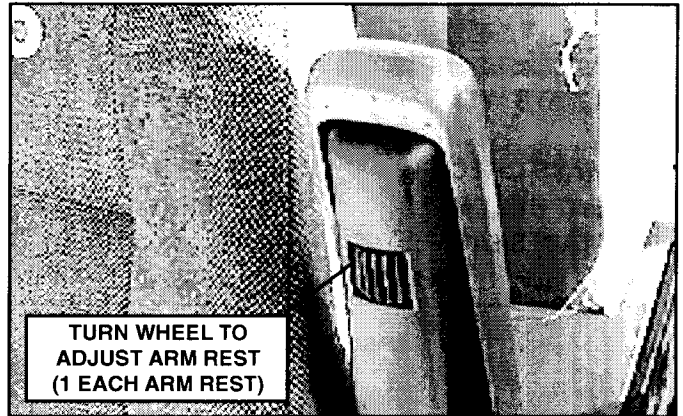

FIGURE 2.50
e. Arm Rest Adjustment – FIGURE 2.50